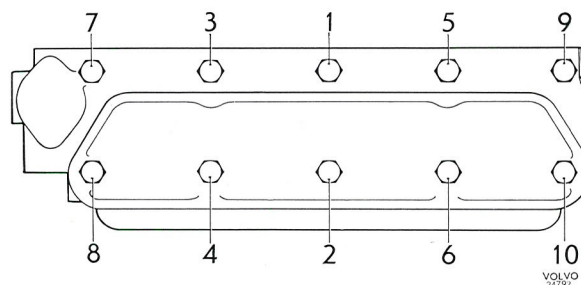
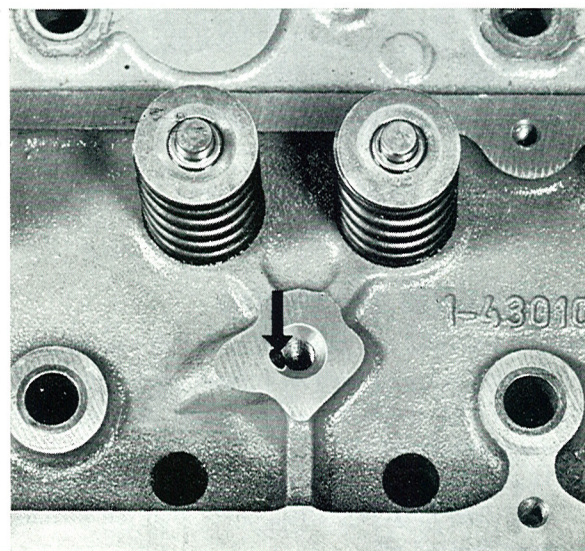
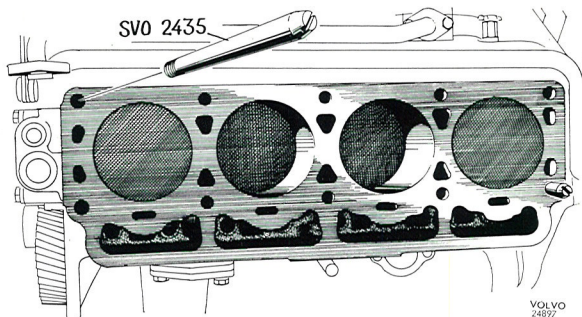

Fig. 2-23. Tightening sequence for cylinder head bolts
Fig. 2-24. Oil hole in cylinder head
Fig. 2-26. Guide pins for fitting the cylinder head
The cylinder head is fitted with the help of guide pins (SVO 2435). The bolts must be tightened in a certain sequence as shown in Fig. 2-23, in order to avoid unnecessary stresses. Check that the oil hole (Fig. 2-24) for lubricating the rocker arms is clear.
9. Fit the valves. Screw the guide pins SVO 2435 into the block, one in the front right-hand hole and the other in the left-hand rear hole, see Fig. 2-26. Install a new cylinder head gasket and new sealing rings for the water pump and fit the cylinder head. Screw out the guide pins and fit the bolts in these holes as well. For tightening sequence and tightening torques, see Fig. 2-23. The tightening torque is 8.5–9.5 kgm (60–70 lb.ft.). Fit the other parts. Fill up with coolant according to the instructions given under "Filling with coolant when the system has been emptied".
3. Screw down the guide pins SVO 2435, one in the front right and one in the rear left bolt hole, see Fig. 2-26. Fit a new cylinder head gasket and then fit the cylinder head. Note that the cylinder head gasket for the B 20 A engine is thicker than
Tighten the bolts in the correct order and to the correct torque. See Fig. 2-23 and "Specifications".